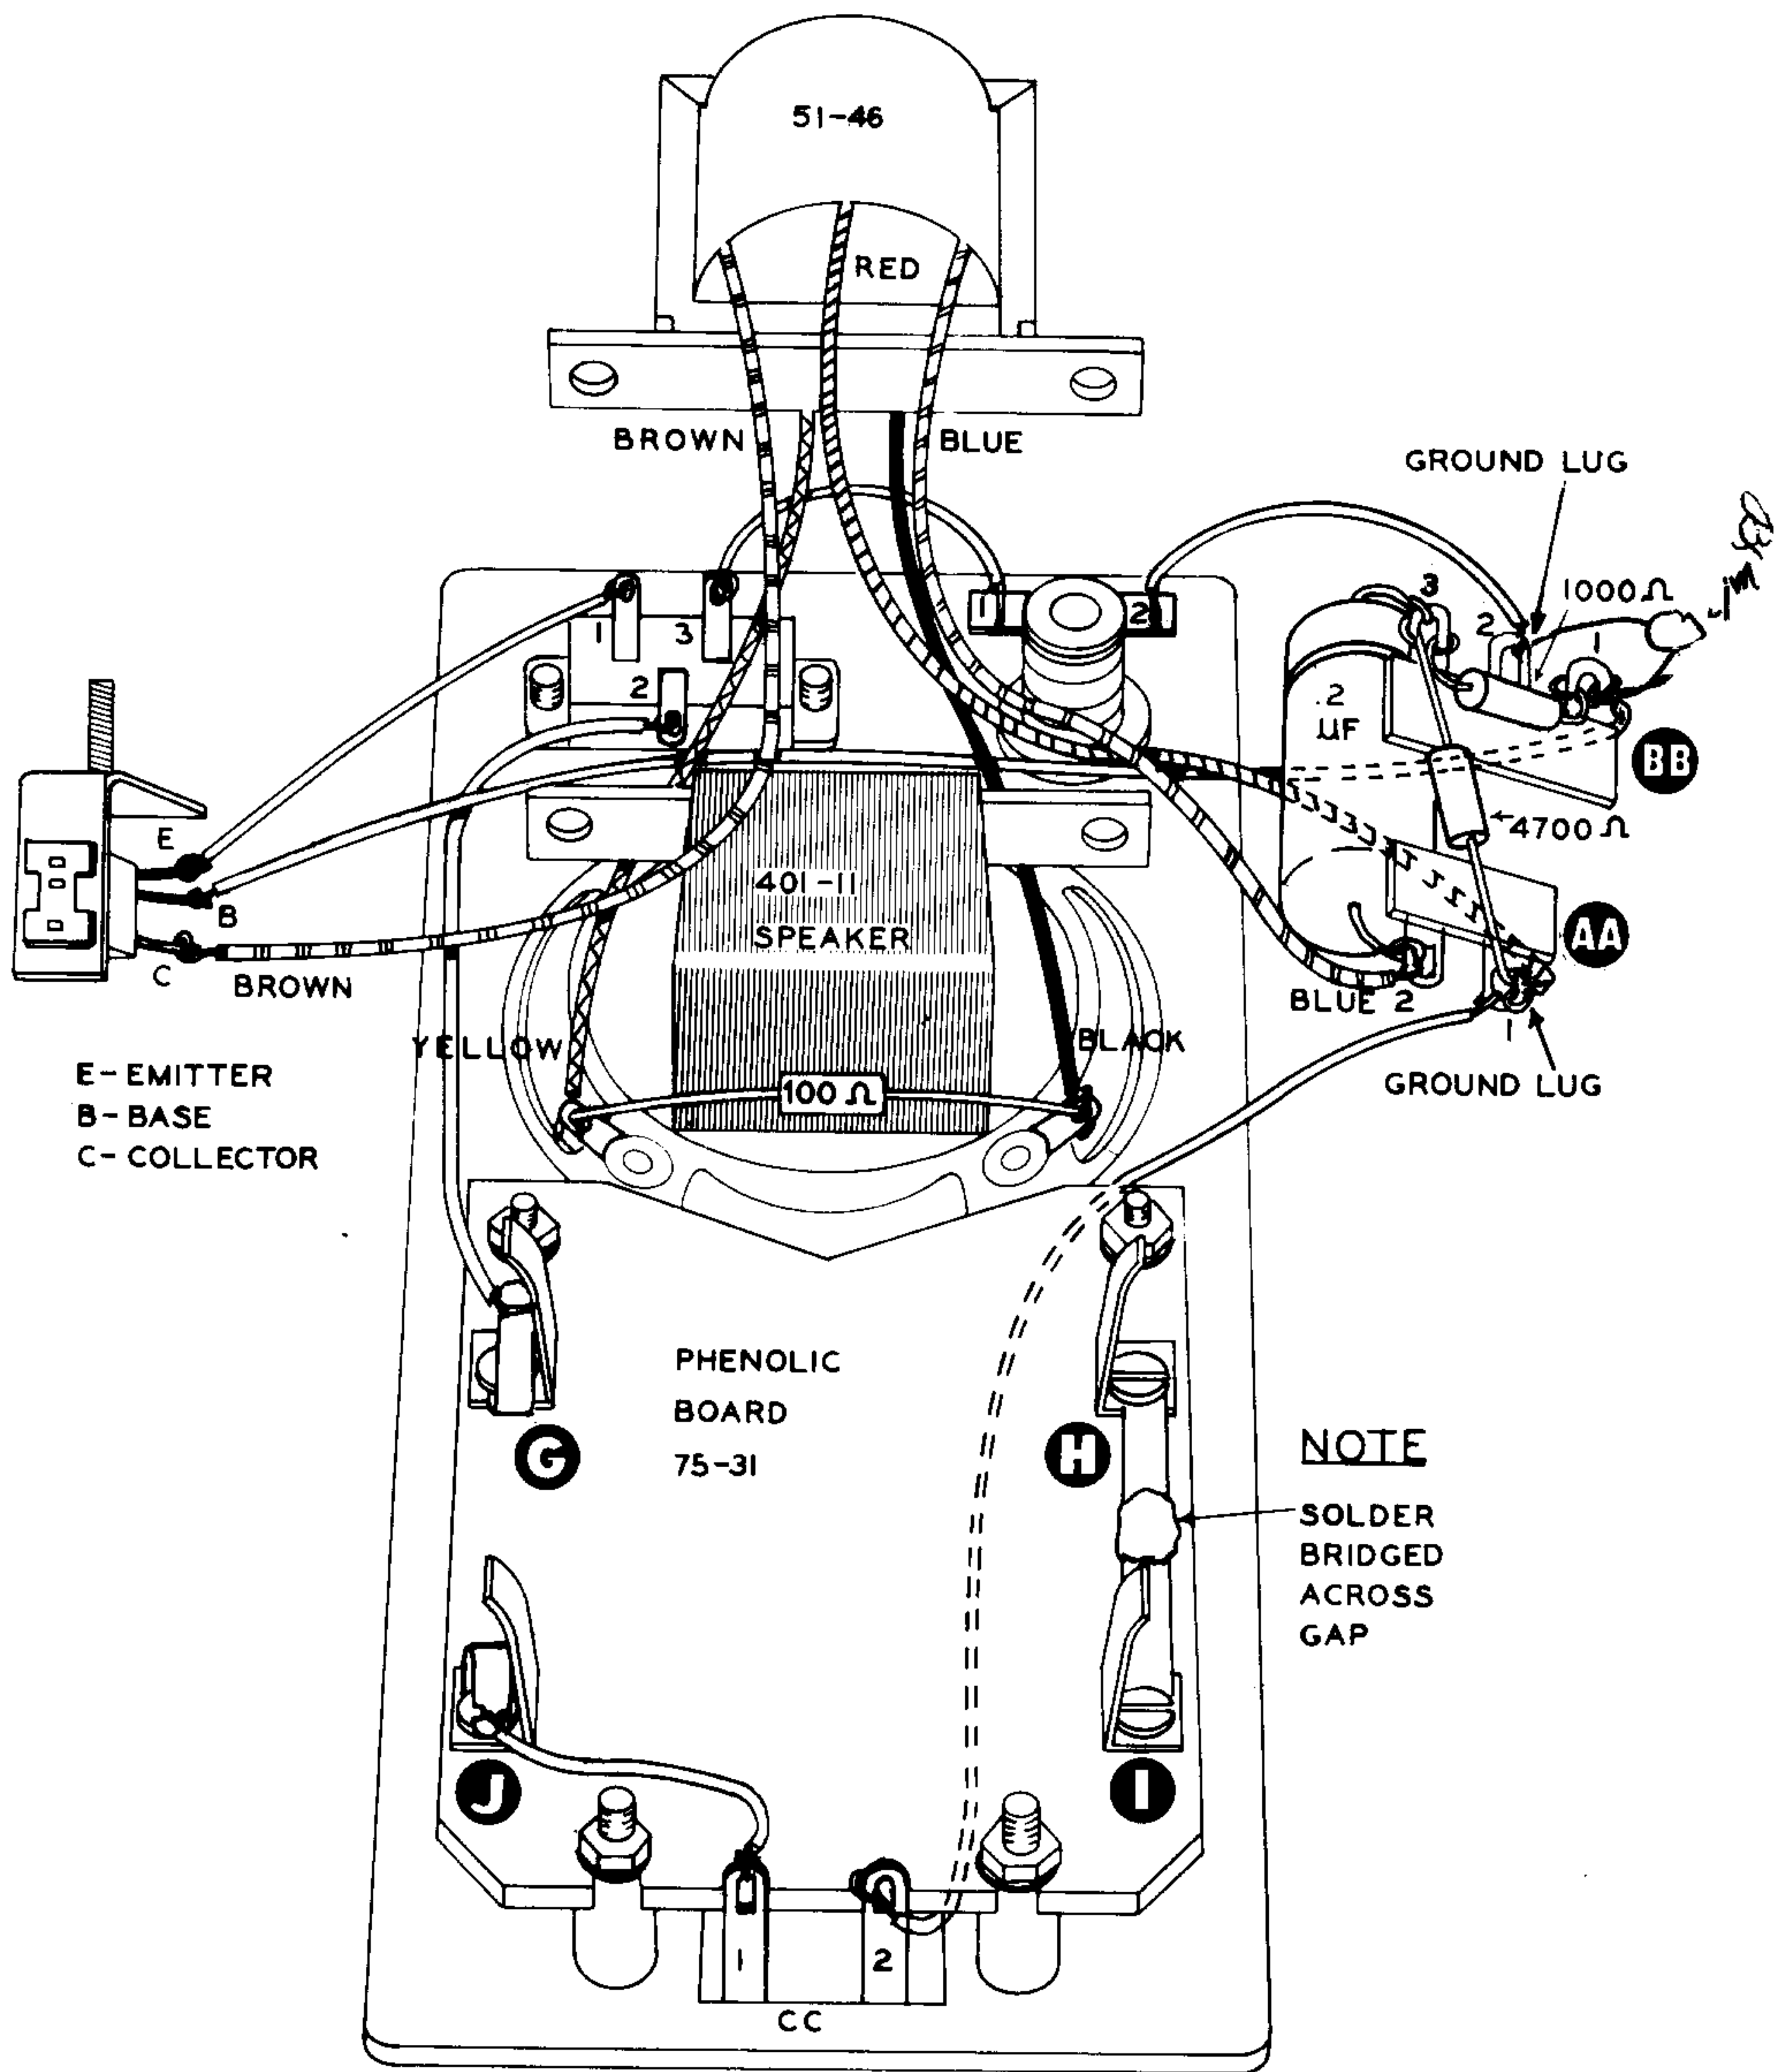

Figure 8
- () Cut a piece of hookup wire 4 1/2" long. Trim 1/4" of the insulation off the ends. Refer to Figure 8, route the lead under the phenolic board and connect to lug 1 on terminal strip AA (NS). Connect the other lead end to lug 2 on terminal strip CC (S-1).
- () Cut a piece of hookup wire 2" long. Trim 1/4" of the insulation off the ends. Connect one end to solder lug J on the phenolic board (S-1). Connect the other end to terminal 1 on the dual screw terminal strip CC (S-1). See Figure 8.
- () Cut a piece of hookup wire 2 1/2" long. Trim the insulation 1/4". Form a small hook at one end of the lead and pinch it tight around the emitter terminal of the transistor socket (S-1). See Figure 8. Connect the other end of the lead to the SPDT switch terminal 1 (S-1).
- () Form the brown lead from the transformer around the L bracket, as shown in Figure 8, and connect it to the transistor collector terminal (S-1).
- () Cut a piece of hookup wire 3 3/4" long. Trim the insulation 1/4". Form a small hook at one end of the lead and pinch it tight around the base terminal of the transistor socket (S-1). Route the lead under the transformer, as shown, and connect to lug 1 on terminal strip BB (NS). Refer to Figure 8.
- () Trim both leads on a 1000 Ω (brown-black-red) 1/2 watt resistor to 5/8" long. Connect one end to lug 3 on terminal strip BB (NS). Connect the other end to lug 1 on terminal strip BB (NS). *Trim both leads of a 1 ufd disc cap to 1/2" long one to lug 1 NSBB*
- () Trim both leads on a 4700 Ω (yellow-violet-red) 1/2 watt resistor to 1" long. Connect one end to lug 1 on terminal strip AA (NS). Connect the other end to lug 3 on terminal strip BB (NS).
- () Route the red lead, as shown in Figure 8, from the output transformer to the grounded solder lug 1 on terminal strip AA (S-3).
- () Trim both leads on the .2 μ fd paper capacitor to 3/4" long. Connect one lead to lug 2 on terminal strip AA (NS). (Pull the capacitor up tight to the terminal strips and bend the lead ends around the lugs.) Refer to Figure 8. Connect the other lead to lug 3 on terminal strip BB (S-3).
- () Form a solder bridge across the two flat solder lugs H and I at the one side of the phenolic board, as shown in Figure 8. A 1/2" piece of bare wire could be used, soldered across the gap.